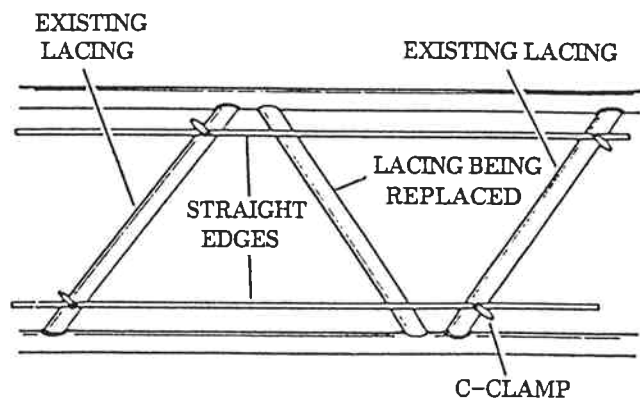

Fig. 2-12 Aligning Replacement Lacing
6. New lacings shall be installed in alignment with adjacent lacings. Accomplish this alignment by placing two straightedges on existing lacings, one on each side of the lacing being replaced. Clamp the straightedges firmly against existing lacings, bring the replacement lacing against the straightedges, and hold in this position while welding is performed (see Fig. 2-12).